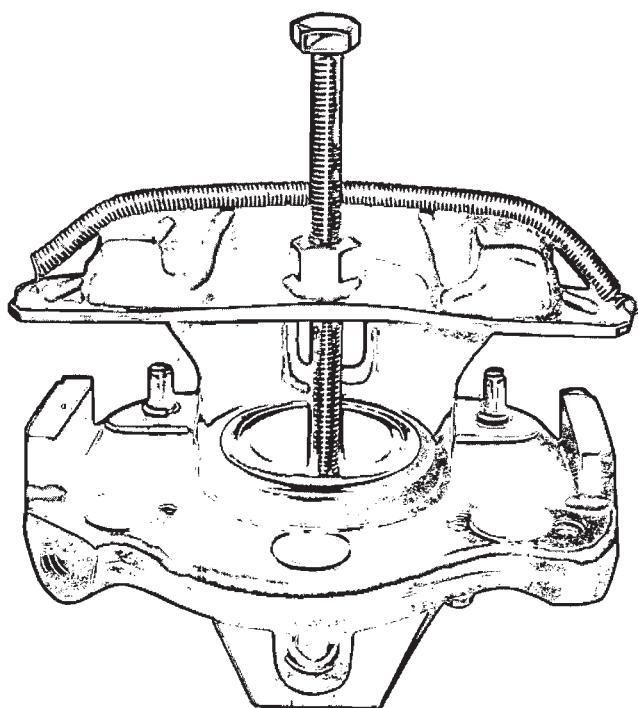
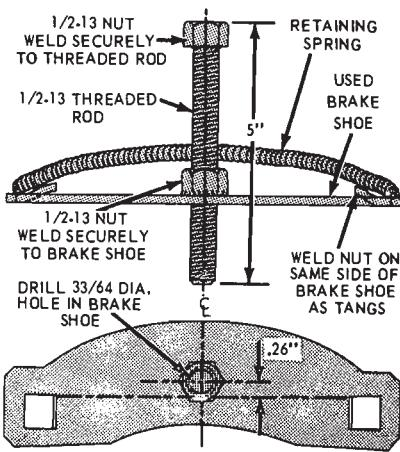

FIG. 7—Installing Piston Retracting Tool
FIG. 8—Piston Retracting Tool
in the caliper with the brake shoe lances positioned in the slots in the caliper outer legs and retract the piston (Fig. 7).
The piston retracting tool can be fabricated from a discarded outer brake shoe and a threaded rod. Refer to Fig. 8 for tool fabricating details.
3. Install the piston retracting tool in the caliper with the brake shoe lances positioned in the slots in the caliper outer legs and retract the piston. The piston retracting tool can be fabricated from a discarded outer brake shoe and a threaded rod. Refer to Fig. 8 for tool fabricating details. When using the piston retracting tool, turn the threaded rod one half turn at a time and pause to permit the piston to move in the seal. Reduce the time interval to ensure bottoming of the piston. If the piston is not fully bottomed, the spacing between the linings is insufficient to assemble the brake shoe and caliper assembly over the rotor. Use a cloth to catch brake fluid from the caliper bore (See Fig. 7).